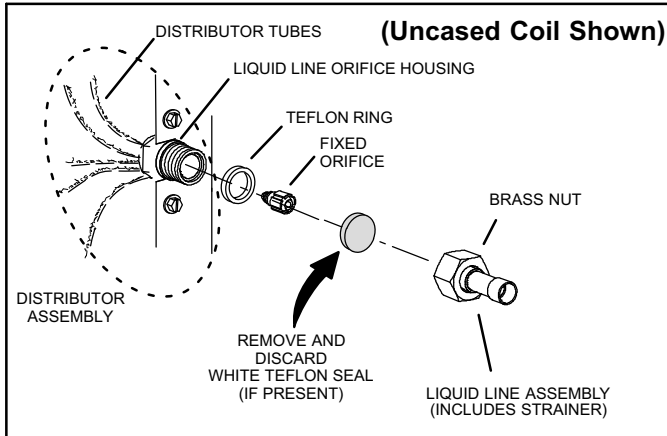

Figure 21. Typical Fixed Orifice Removal
- Remove and discard fixed orifice, valve stem assembly if present and Teflon washer as illustrated in Figure 21.